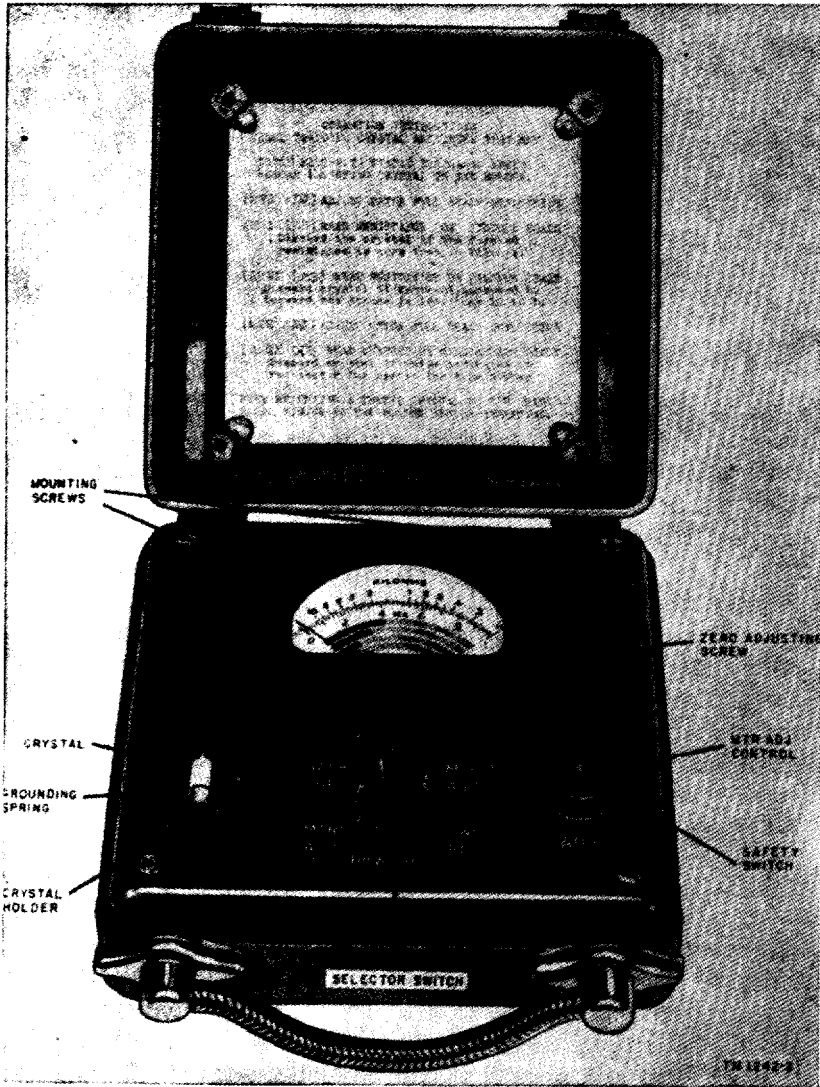

Figure 4. Crystal Rectifier Test Set TS-268/U, front panel view.
*a.* Crystal Rectifier Test Set TS-268(\*)/U (fig. 4) is a combination ohmmeter-ammeter, designed to permit rapid qualitative tests on specific types of r-f (radio-frequency) crystal rectifiers. Measurements of the front resistance, back resistance, and back current may be made with this equipment. The condition of the crystal rectifier under test can be determined by comparing the results obtained to typical values for each type of crystal rectifier.